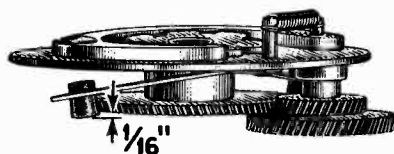

Figure 4—Adjustment of damper pads
- (c) **Improper Adjustment of the Damper Pads.** The damping pads with the necessary springs are provided to place a load on the  $33\frac{1}{3}$  R.P.M. driving gear at all times while it is in operation. Placing such a load on the gear takes up any possible play and reduces the possibility of a "wow" during operation at the slower speed. Adjust these pads by slipping each spring to one side and bend them until they are  $\frac{1}{16}$ " beyond the opposite surface upon which they rest. (See Figure 4).